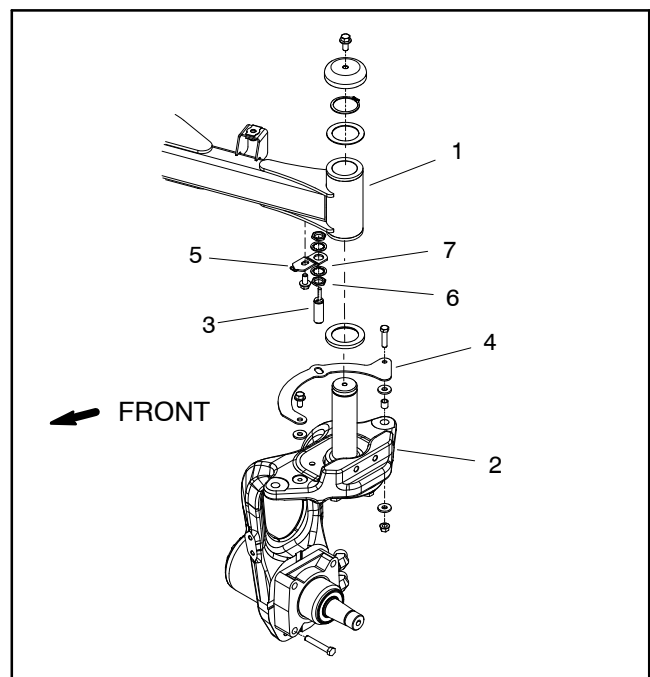

Figure 51
The steering home sensor is a normally open proximity sensor. The sensor mounts to a bracket that is secured to the bottom of the front axle near the left side front steering fork (Fig. 51). The sensing plate for the steering home sensor is a target bracket attached to the left side front steering fork.
3. Locate steering home sensor and target bracket on LH front steering fork (Fig. 51).